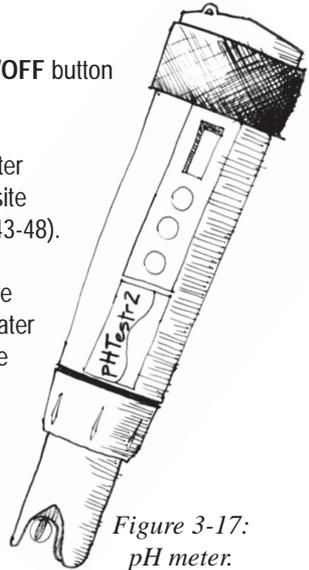

Figure 3-17:
- 1 pH Testr 2 meter (Figure 3-17)